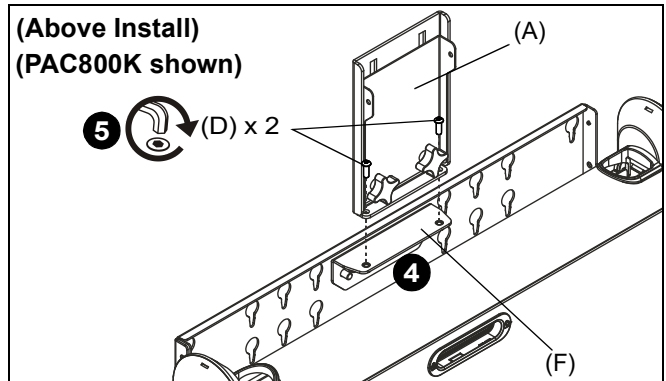
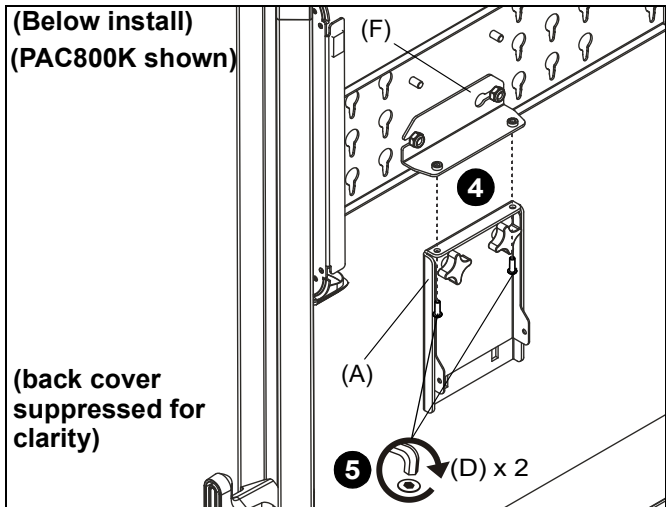

Figure 4
Figure 5
4. Position main bracket (A) above or below the adapter bracket (F) making sure to line up the holes on the main bracket with the holes on the adapter bracket. (See Figure 4) or (See Figure 5)
5. Install two 1/4-20 x 3/4" button head cap screws (D) through holes in main bracket (A) and adapter bracket (F). (See Figure 4) or (See Figure 5)